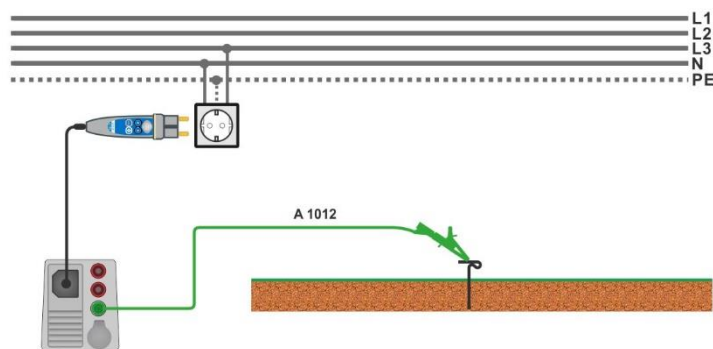

Figure 7.41: Connection for Uc(P) measurement
- › Connect test lead P/S to external earthed point (optional), see **Figure 7.41**.